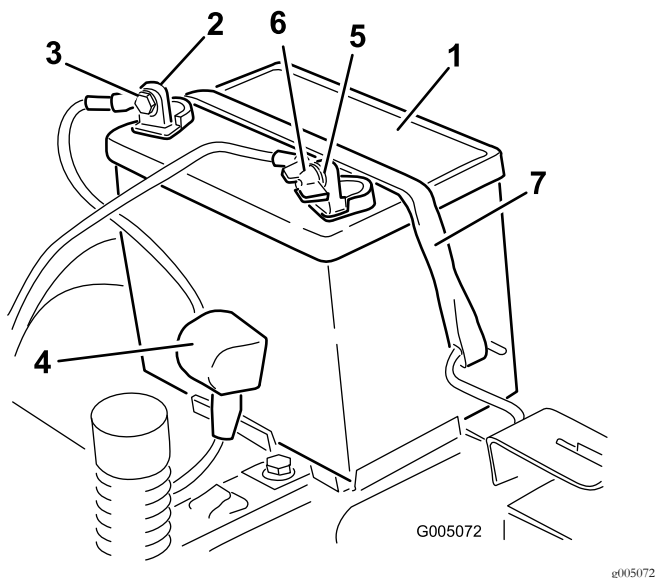

Figure 51
4. Disconnect the negative (black) ground cable from the battery post (Figure 51).
6. Disconnect the positive (red) cable from the battery post (Figure 51).
7. Remove the battery hold-down (Figure 51), and lift the battery from the battery tray.
1. Position the battery in the tray (Figure 51).
5. Secure the battery with the hold-down (Figure 51).